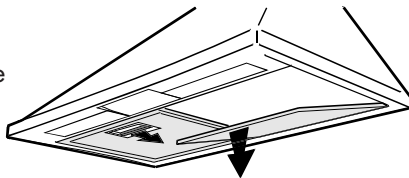

Fig. 4
- Push it towards the back of the unit and then pull it down and out. Fig. 4.